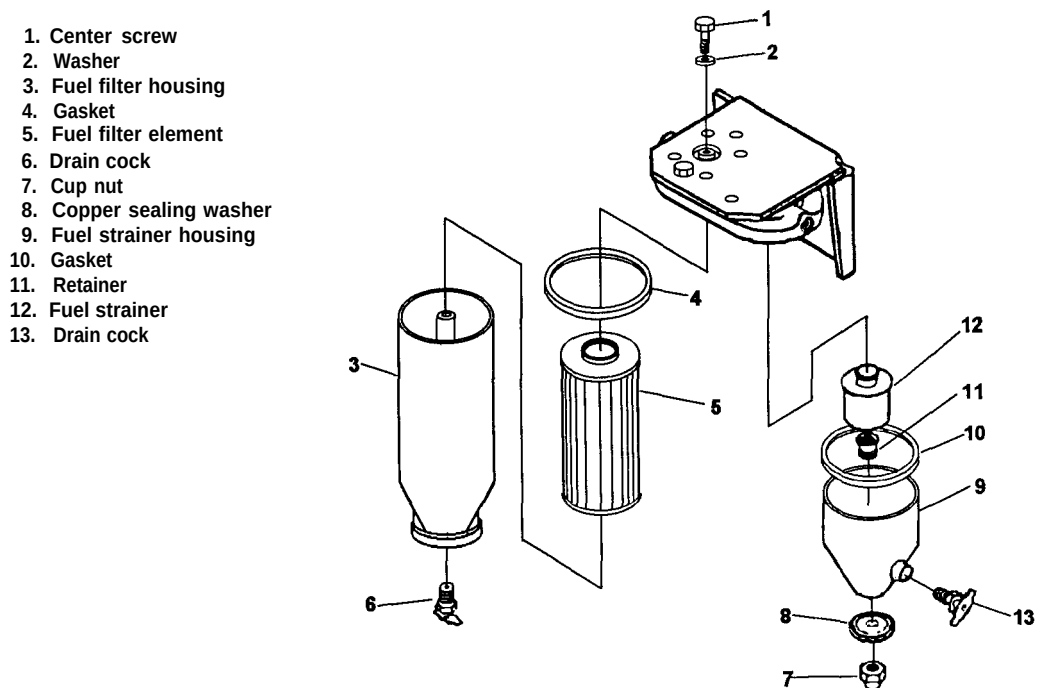

Figure 4-16. Fuel Strainer and Filter Housing, Disassembly and Reassembly
- (1) Remove center screw (1, Figure 4-16) and washer (2) to remove fuel filter housing (3) and gasket (4). Discard gasket.
- (2) Withdraw filter element (5) from housing and discard.
- (3) Do not remove drain cock (6) unless replacement is necessary.
- (4) Remove cup nut (7) and sealing washer (8) to remove strainer housing (9) and gasket (10). Discard gasket. Do not remove drain cock (13) unless replacement is necessary.
- (5) Remove retainer (11) to remove strainer (12).
- (1) If removed, install drain cock (13), (Figure 4-16).
- (2) Install strainer (12) and secure with retainer (11) finger tight.
- (3) Install replacement gasket (10) and housing (9) and secure with sealing washer (8) and cup nut (7). Tighten nut securely to prevent leaks.
- (4) If removed, install drain cock (6).
- (5) Install replacement filter element (5) into housing (3).
- (6) Install replacement gasket (4), housing (3), washer (2), and center screw (1). Torque screw to 17± 2lb-ft.
- (7) Close drain cocks on strainer and filter housings.